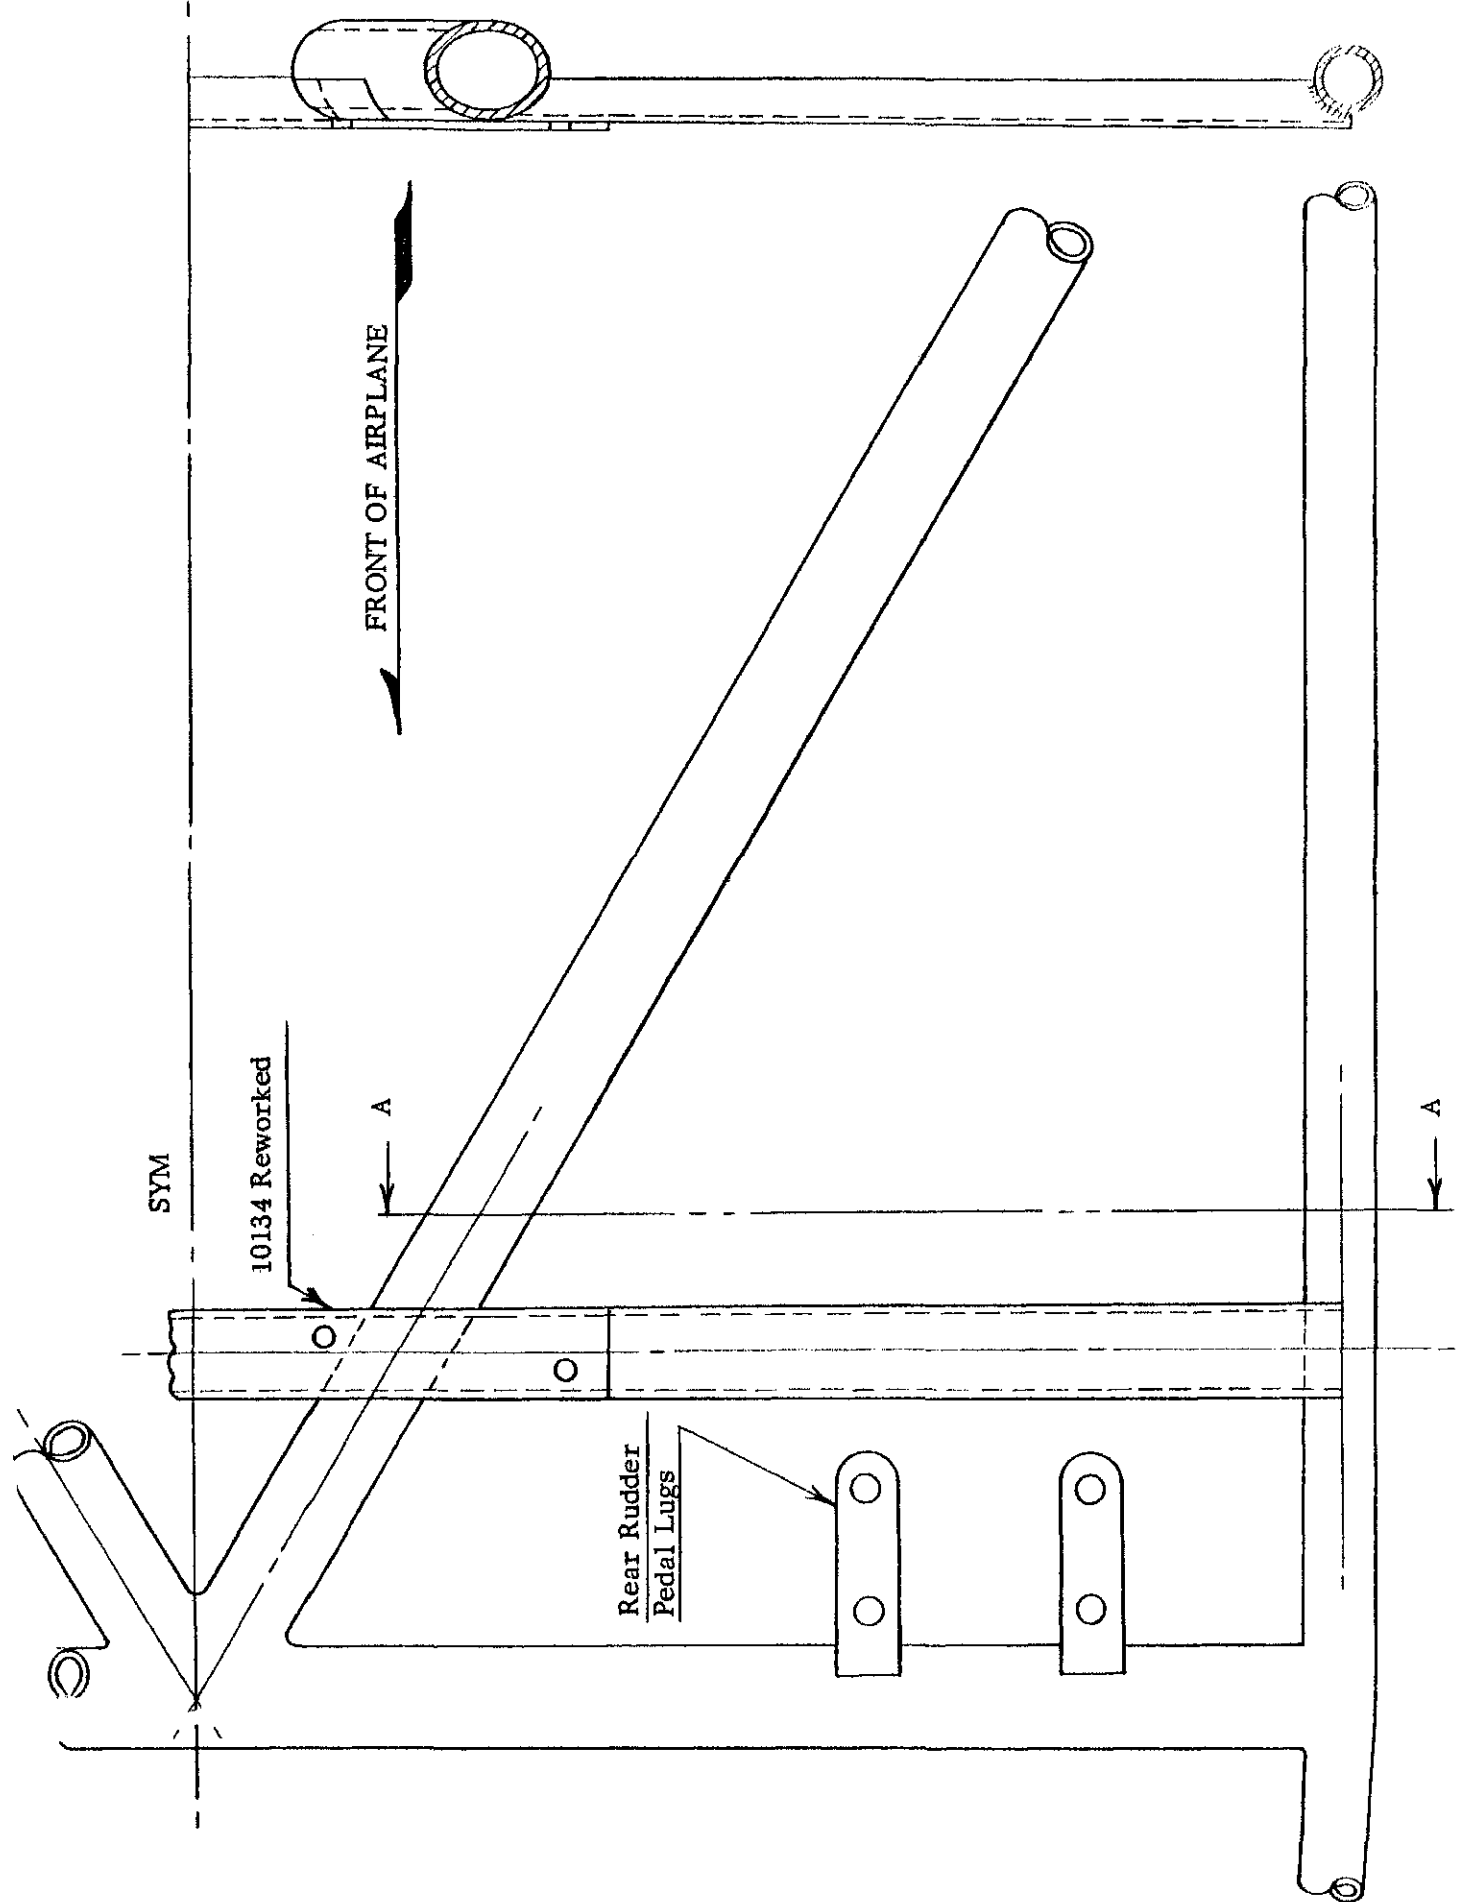
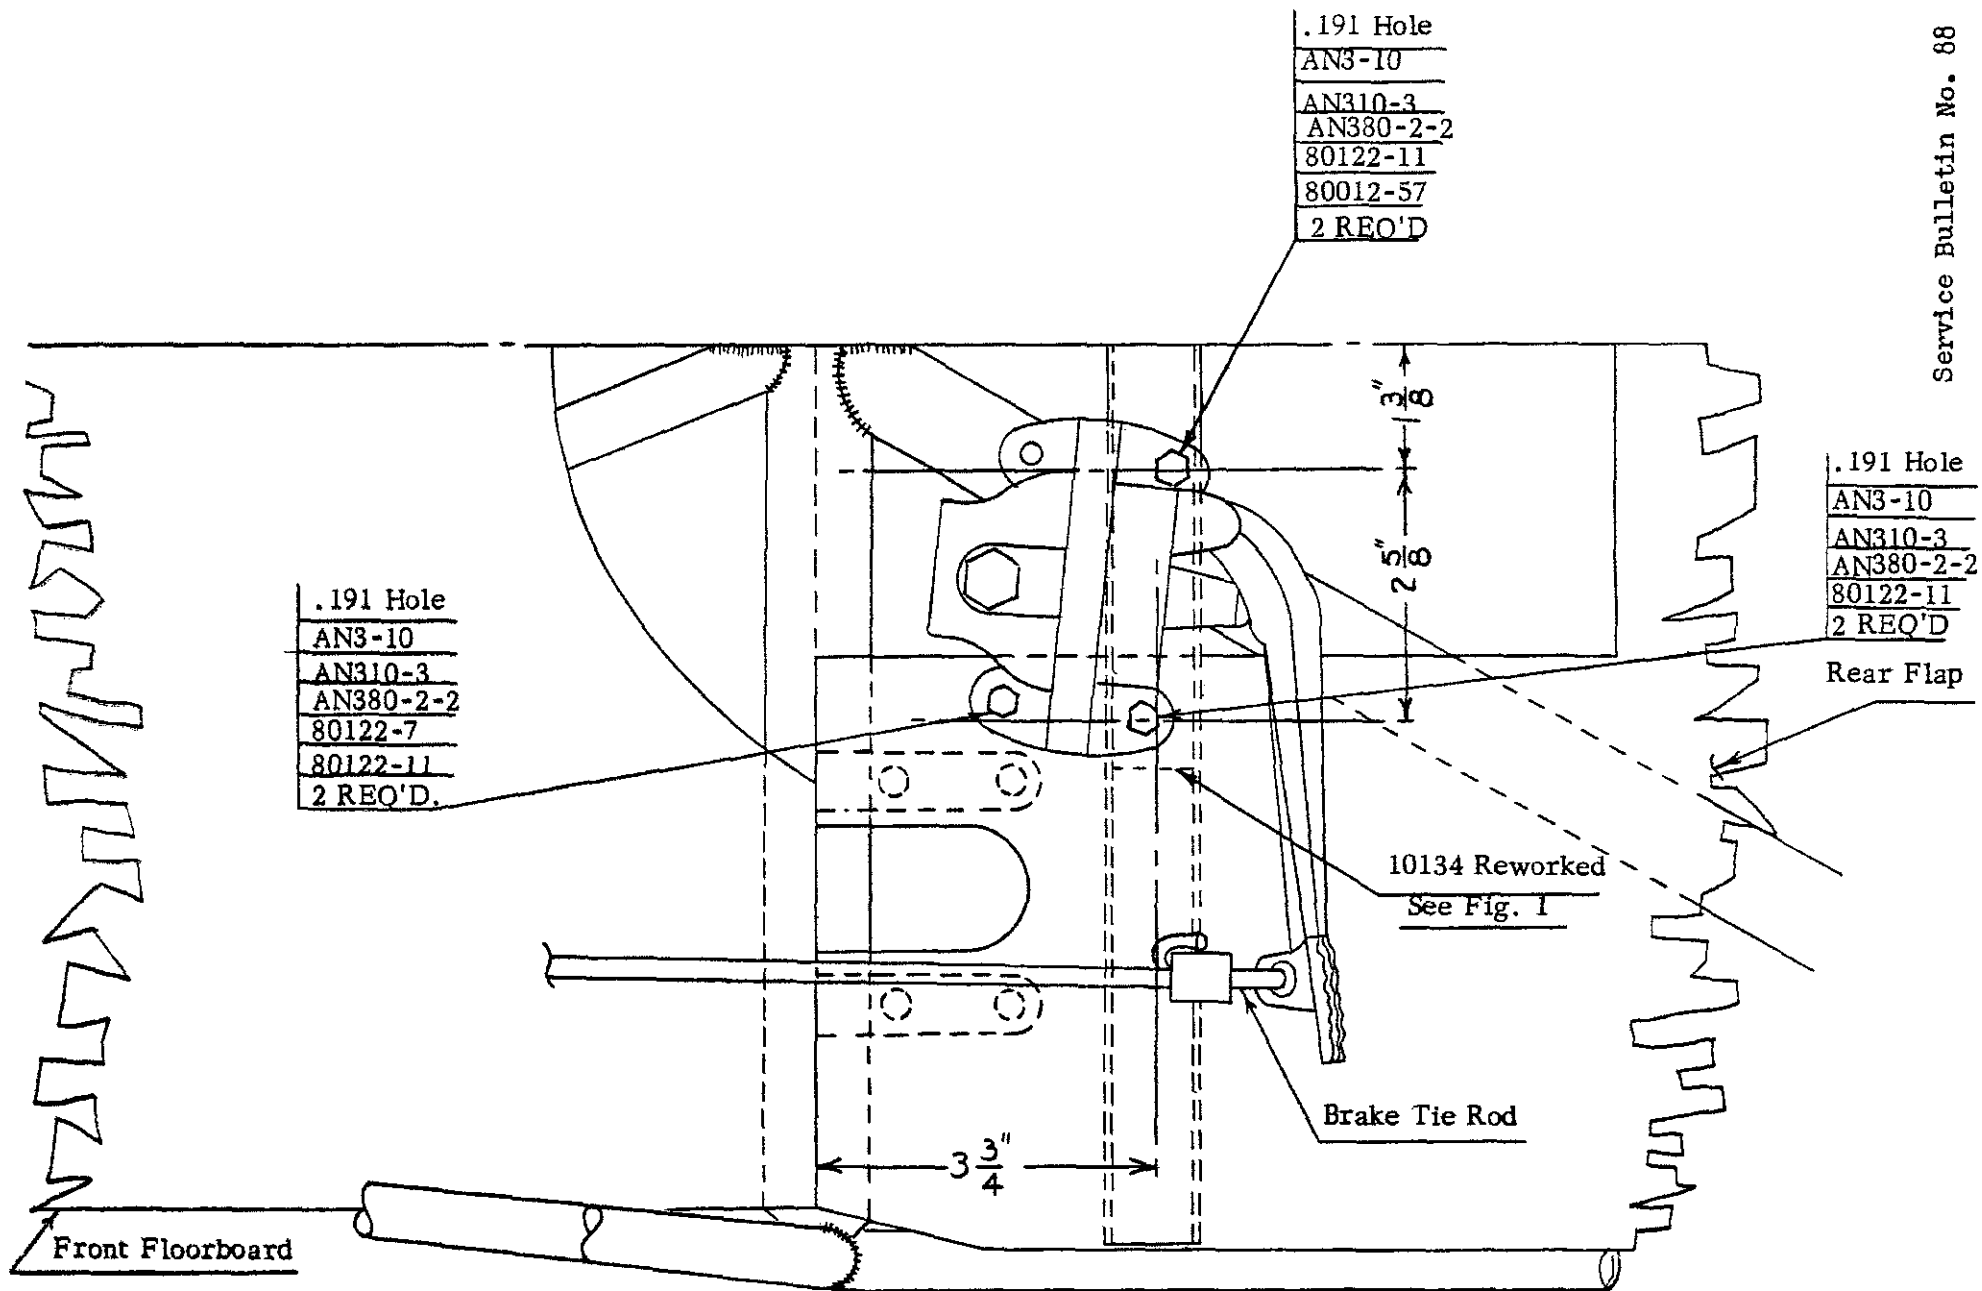

FIGURE 2
Figure 3
3. Remove brake tie rod, shown in Figure 3, from both brakes at the brake cylinder. Disconnect and remove flexible line that is connected to the brake cylinder outlet.
5. Rework channel, 10134 as shown in Figure 1, and install as shown in Figure 2. Channel to be laid in place and held only by floorboard. To be attached later by bolts that hold down brake cylinders.
6. Locate and drill holes as shown in Figure 3, using brake cylinder and part 10134 (reworked) as templates to locate holes. (Do not drill hole where foot of brake cylinder falls over fuselage tube.) Figure 2 shows how 10134 would fit if there were no floorboards in the airplane.
7. Install brake cylinder with attachment bolts as per Figure 3. The bushing, Part No. 80012-57, will be placed between the brake cylinder mounting lug and Part No. 10134 at the point where the floorboard is cut away.